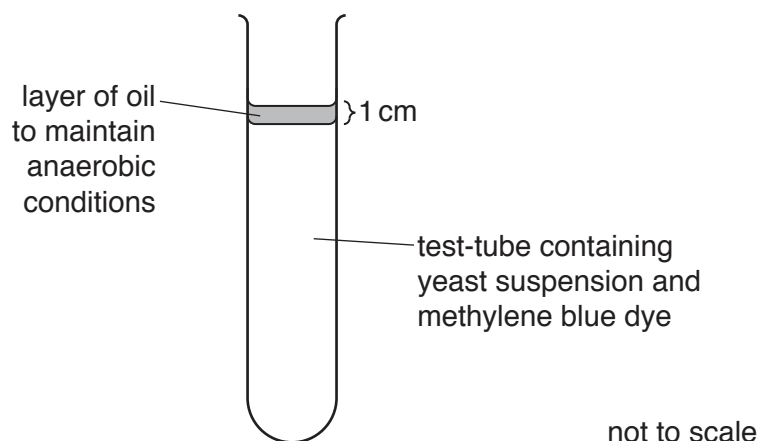

Fig. 1.1
- Step 10 Use a pipette to slowly add a layer of oil to test-tube **WM**. The layer of oil should be approximately 1 cm thick. The layer of oil will float on top of the yeast suspension and methylene blue mixture, as shown in Fig. 1.1.